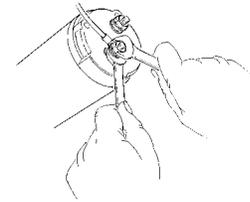

Figure 10
*When attaching wires to the motor terminals and solenoid (relay), hold the inner nut when tightening the outer nut. Do not allow the motor terminals to rotate for it may cause internal wire breakage or part misalignment. Be especially careful in preventing the solenoid (relay) terminals from rotating. Any rotation can damage the solenoid (see Figure 10).*